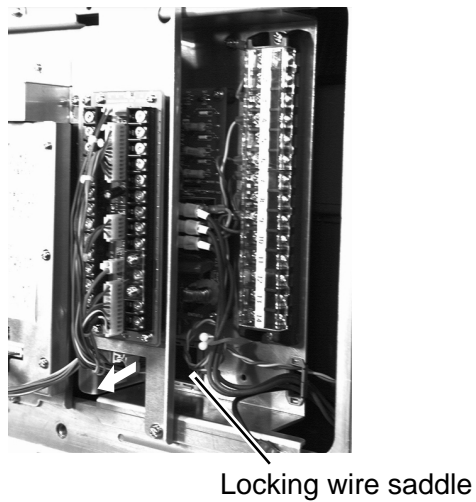

*Figure 2-6 Passing clamping gland, washers and gasket on signal cable*
- As shown in Figure 2-6, slide the clamping gland, washers and gasket onto the signal cable. Fold back the armor by 5 mm, and then pass it through the two flat washers.